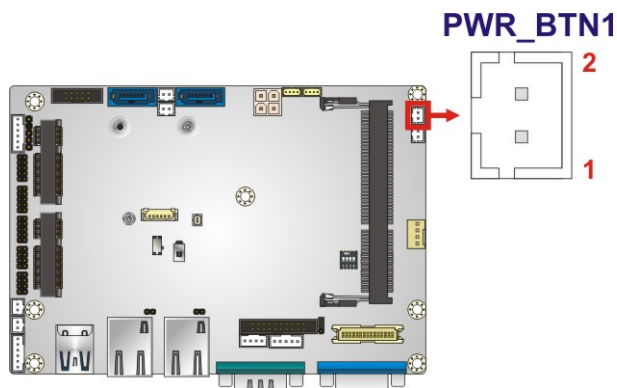

Figure 3-18: Power Button Connector Location
- CN Location:** See **Figure 3-18**